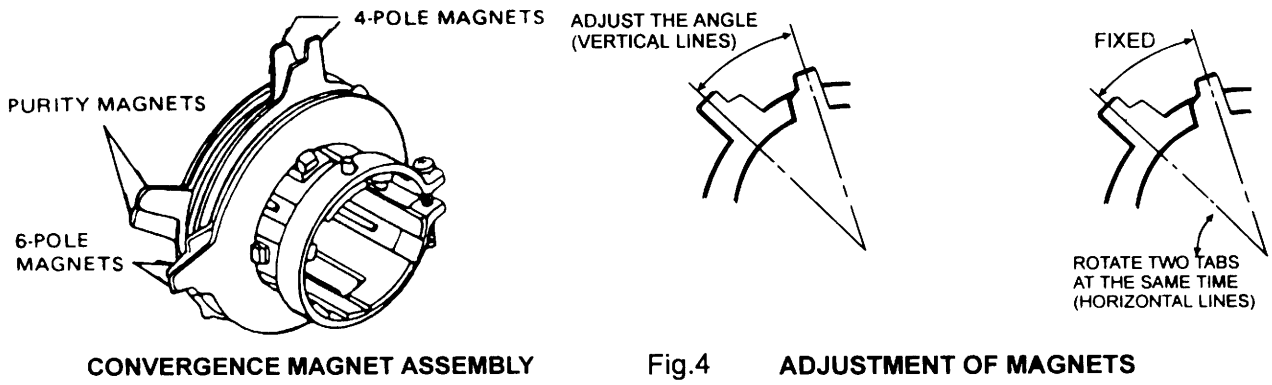
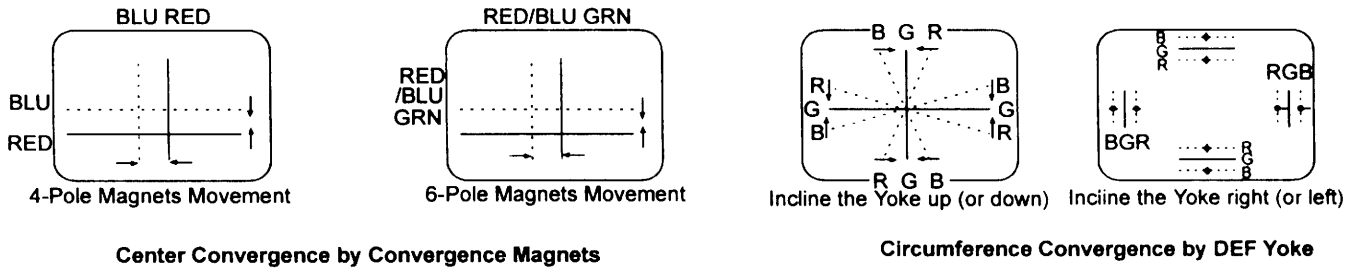

Fig.4
Fig.5 Dot Movement Pattern
3. Adjust two tabs of the 4-Pole Magnets to change the angle between them (see figure 4) and superimpose red and blue vertical lines in the center area of the picture screen. (see figure 5)
4. Turn the both tabs at the same time keeping the constant angle to superimpose red and blue horizontal lines at the center of the screen.(see figure 5)
3. Tilt front of the deflection yoke up or down to obtain better convergence in circumference. (See figure 5). Push the mounted wedge into the space between the picture tube and the yoke to hold the yoke temporarily.
5. Tilt front of the yoke right or left to obtain better convergence in circumference (see figure 5)